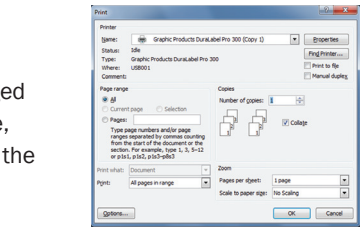

FIGURE 19 Select the DuraLabel Printer you want to print your sequenced labels with from the Print dialog box.
Q. Now select a **DuraLabel Printer** from the **Print dialog box** that appears (Fig. 19).